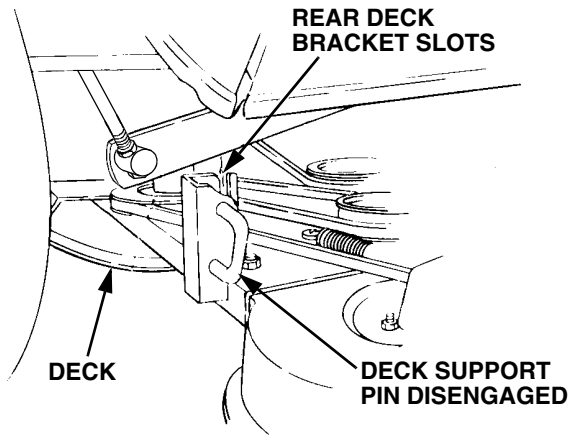

Figure 47
- If not already done, pull the deck support pins outward, turn downward and release so both spring-loaded pins are held in the disengaged position against the outer surface of the deck brackets (Refer to Figure 47).